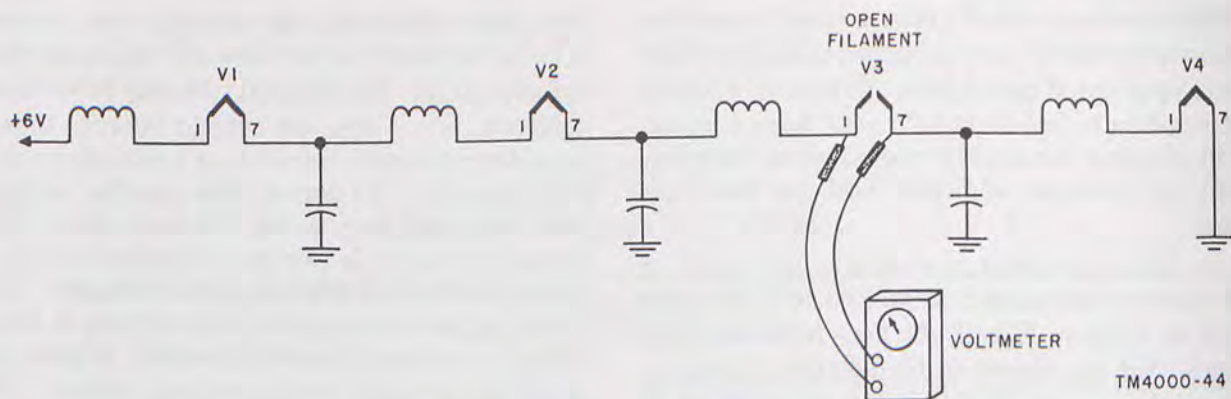

Figure 38. Finding open filament with a voltmeter.
c. If the bottom of the tube sockets is accessible, the tube with the open filament can be found by measuring the voltage across the tube filament terminals with all tubes in their sockets. All good tubes in the string will measure zero voltage across their filaments, but the one that is burned out will have the full voltage that is applied across the string (fig. 38). The open filament will have 6 volts across it. If any one tube has $1\frac{1}{2}$ volts across it, all filaments are good, because the 6 volts will be divided equally among the four tubes.